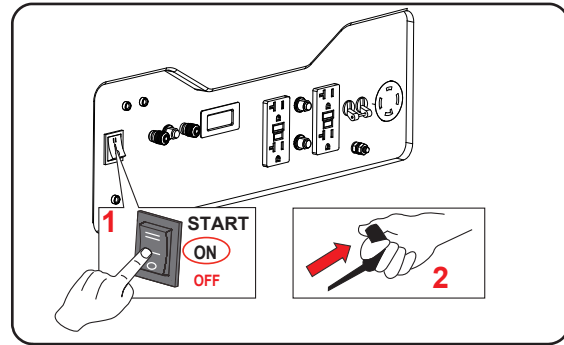

Fig 10 Recoil Start
- For manual start, push engine start ON/OFF switch to the “ON” position. Pull recoil handle (starter cord) slowly until resistance is felt, return, then pull rapidly. (See fig 10)